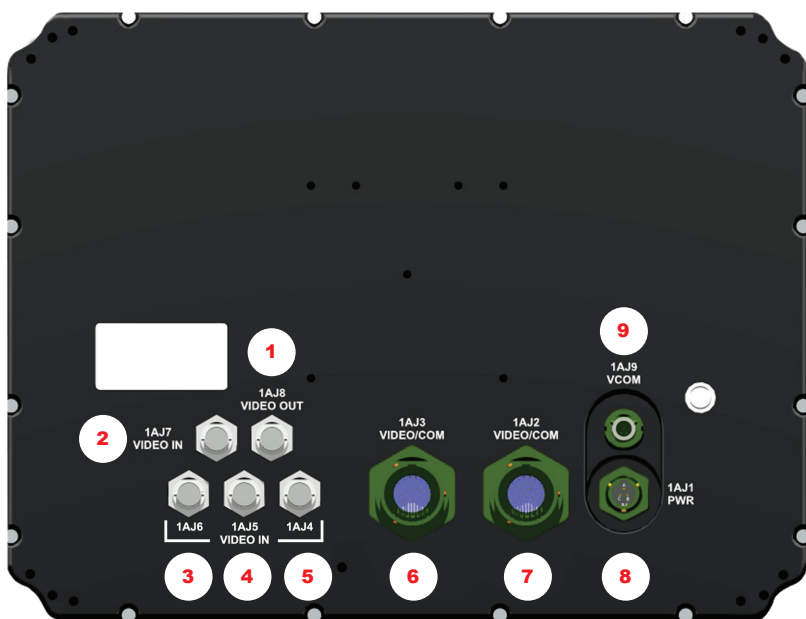

FIGURE 1
Connectors are located on the rear of the chassis. From left to right, see Figure 1, Table 1 for connector assignments.
- Align up with A1J1 connector; See Figure 1, #8
- Align with A1J2 or A1J3 connector; See Figure 1, #7, 6
- Align with A1J4-A1J7 - IN connector; See Figure 1; #5, 4, 3, 2
- Align with A1J8 - OUT connector; See Figure 1, #1
- Align with A1J9 - VCOM connector; See Figure 1, #9